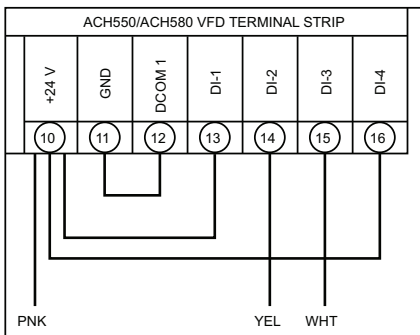

Fig. 33 — ACH550/580 VFD Wiring
- For ACH550/580 VFDs the voltage is sourced from the VFD at its terminal 10 (+24 V). 2-Speed Indoor Fan system speed inputs are received at terminals 14 (DI2) for low speed (40 Hz) motor operation and 13 (DI3) for high speed (60 Hz) motor operation. See Table 33 and Fig. 33.